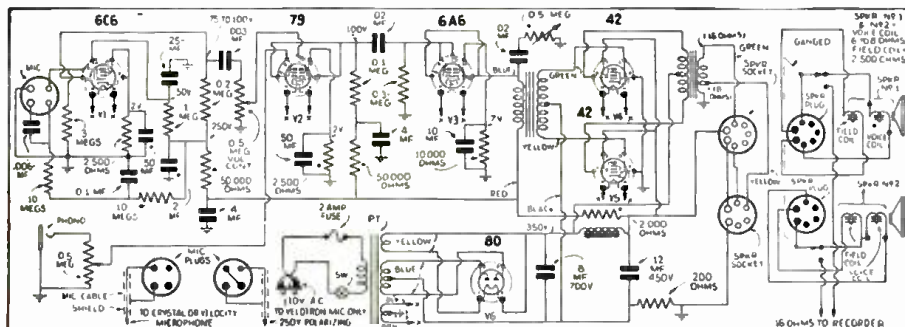

Fig. 1. Schematic diagram of the dual recording and public address system.
**6WSG (Glass) Rectifier for Car-Radio Sets.** This tube is interchangeable with the type 6X5 and 6X5G, where higher output is desired. The tube was designed primarily for service in car-radio receivers and may be used in either vibrator type or A.C. operated power supplies. See photo, Fig. A2. Its physical dimensions are given in Fig. 1.
This tube is illustrated by photograph in Fig. A3. Its mechanical design is shown in Fig. 1. **6T5 Annular-Pattern Tuning Indicator.** Instead of "opening" like a fan, the "eye" of this new tube fills the area uniformly as shown in Fig. 1. This tube has operating conditions similar to those for the 250 V. rating of the type 6G5. This is illustrated by photograph in Fig. B.